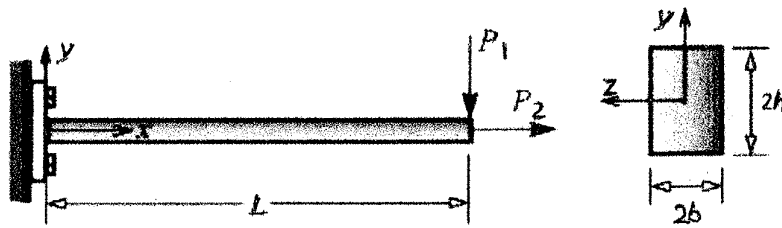

Figure Q2
- (ii) A cantilever beam with rectangular cross section is shown below (Figure Q2). It is loaded with two concentrated loads: P_1 and P_2 at the free end of the beam. The following mathematical function has been proposed as the Airy's stress function.